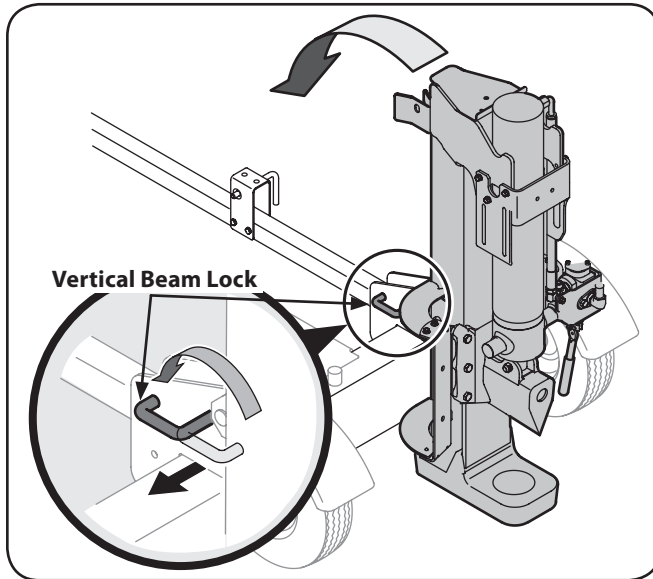

Figure 3-3
12. Pull out the vertical beam lock, rotate it back, and pivot the beam to the horizontal position until it locks being sure to avoid any possible pinch points. See Figure 3-3